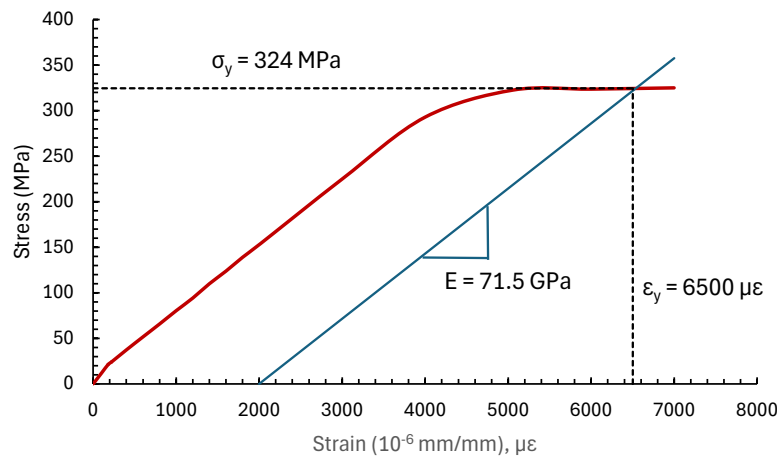

Figure 2: Elastic Region of Axial Stress vs Axial Strain for Uniaxial Tension Test
4. Create a stress-strain graph focusing only the elastic region with axial stress (in MPa) on the vertical axis and axial strain (in 10^{-6} mm/mm) on the horizontal axis. Label the key points to include yield stress (σ_y), yield strain (ϵ_y), and Modulus of Elasticity (E). See Figure 2.